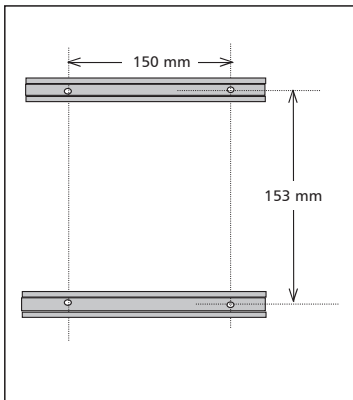

fig. 1
- 1** ▶ Fix two DIN rails to the mounting surface as shown in figure 1. The position of the lower DIN rail can also be determined by first attaching two inverters to the upper rail.